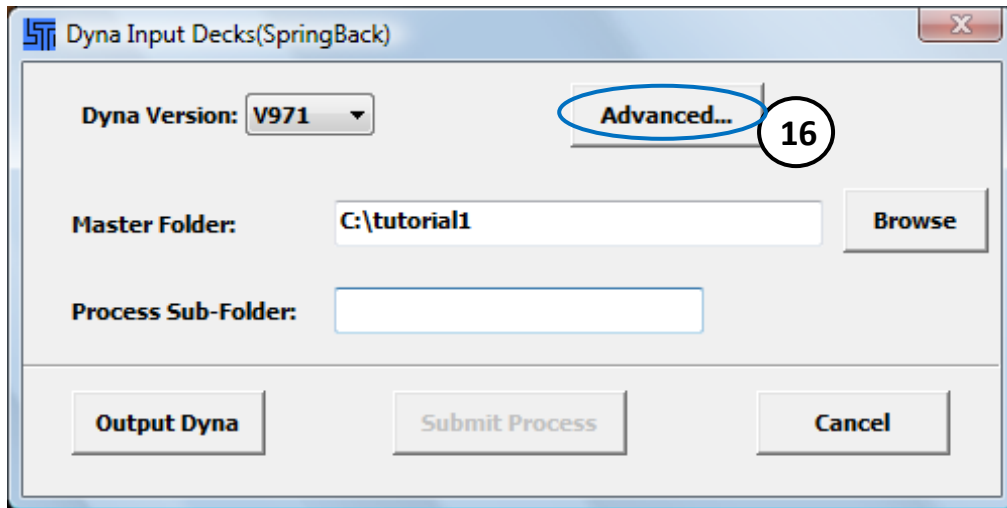

Figure 10
click (launches *Dyna Input Decks Springback* Dialog in Figure 10)
5. Define Output Options (Figures 10 and 11)
click **Advanced...** (Figure 10)